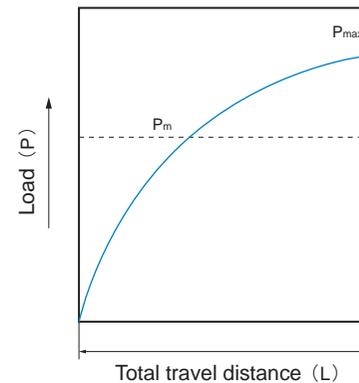

Fig.21 Variation like Sine curve's load (2)
• When average load variation curve shown as the Fig.21. Average load can be calculated by using equation (15).